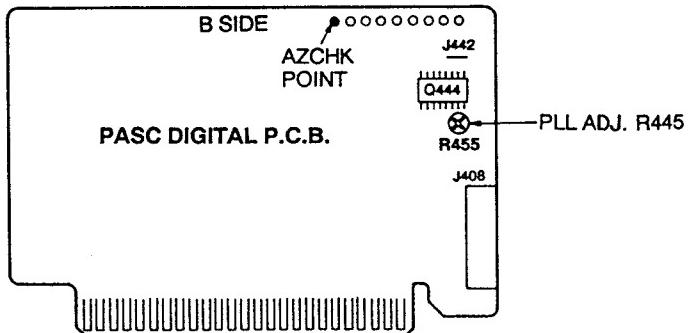

Fig. 11
- ① Stop the right side Azimuth screw at the point where only the CH2 waveform starts to move Ⓐ.
- ② Turn the Azimuth screw to the left until the point where the waveform starts to move in the opposite direction Ⓑ.
- ③ Turn the Azimuth screw to halfway between Ⓐ and Ⓑ.
1. Connect the oscilloscope to the AZCHK terminal of the PASC DIGITAL P.C.B. (Fig. 11).